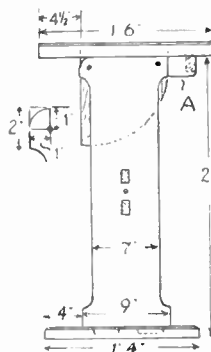
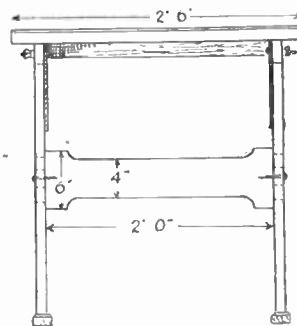
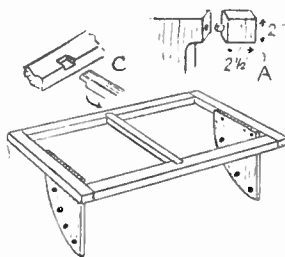

Fig. 1—Side view
Fig. 2—Front elevation
Fig. 4—Details of the top
A side view is given at Fig. 1, and a front view at Fig. 2, with dimensions. Cut the sides to length given in the cutting list, and at the bottom, saw out two tenons, $2\frac{1}{2}$ ins. wide and $\frac{1}{2}$ in. deep, for fixing to the feet. At 2 ins. down from the top, and 2 ins. up from the bottom, reduce the width, as shown. At the top, each side, mark centres, as shown in inset, with an awl, and at the left side, from the centre, strike a quarter circle. Trim this end to the curve, and at the centre bore a $\frac{1}{2}$ in. hole for a bolt, on which the table top swings.
At the centre, marked on the right, bore a $\frac{1}{2}$ in. hole, and if measurements are correct, the distance between the holes, from centre to centre, will be exactly 7 ins. It is important to get this distance right. At the right again, a projecting piece of wood must be added, as shown at (A) in Fig. 1 and also at Fig. 4. These pieces are cut to the size given, and glued and dowelled in place. The lower corners are afterwards rounded off a trifle.
Cut the crossbar to length given in Fig. 2, plus $\frac{3}{8}$ in. extra at each end for the tenons. Cut the tenons $1\frac{1}{2}$ ins. long, separated by a space of $2\frac{1}{2}$ ins. A good fit is required here. Shape the crossbar, as shown in the drawing, then glue to the sides, and add a round-headed screw to each joint, driven in between the tenons. Across the sides, at the top back, screw a bar, where shown by shaded outline at (A). Make sure at this stage that the width between the sides is 2 ft., as in the front view of the table. Important this.
The table top consists of a frame covered with plywood. The outside dimensions of this are given in Figs. 1 and 2. The joints can be the ordinary mortise and tenon ones or just half laps, as preferred. Across the centre a $1\frac{1}{2}$ ins. wide bar is notched in, this simple joint being detailed at (C) in Fig. 4. If wood of the size given in the cutting list is employed, the inside measurement, lengthwise, will be 2 ft., exactly the same as that of the crossbar across the sides. It will be as well to measure the latter, and if any difference exists, which a slight error in construction may have caused, the table frame could be amended to suit.